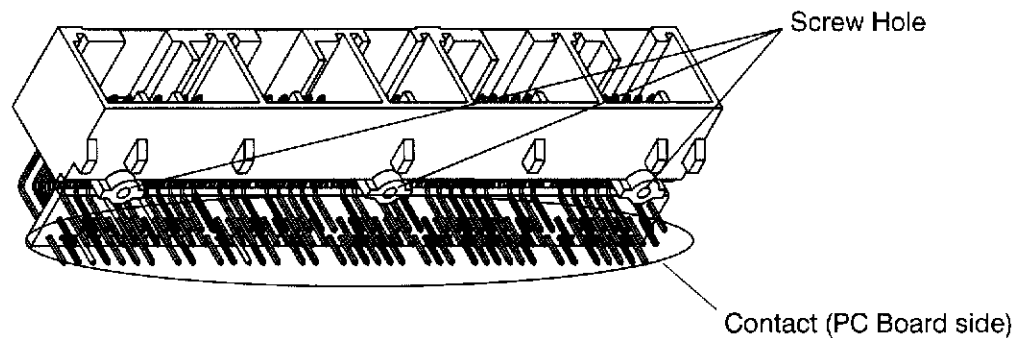

Fig.6
(1) See the customer drawing for the PC Board dimension.
(2) Do not deform the contact (PC Board side). Fig6.
(3) The fixing should be made with the proper type of screw and torque.